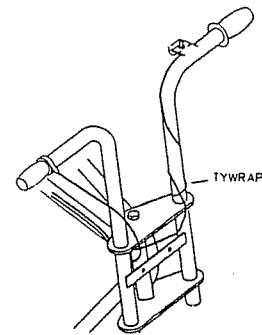

Figure 1: Routing Diagram
2. Separate the Throttle Cable and Stop Switch Wire. Lay the Stop Switch to the left side of the Frame. Route the Throttle Cable (REF. NO 23), as shown in Figure 1, along the top, right side of the Frame, and between the Upper Crown Plate and Front Plate Mounting Bracket.
2. To mount the Fork Assembly to the Frame, align the Fork Pivot Holes with the Frame Pivot Tube and insert the Bolt (REF. NO 38) through the Fork Holes and Bushings. Ensure the Throttle Cable is to the right of the Pivot Tube, see Figure 1. It may be necessary to tap the head of the Bolt with a hammer to seat it in position against the Nut welded to the bottom side of the Lower Fork Plate. Tighten the Bolt until there is no play between the Fork and the Pivot Tube, but will still allow the Fork to rotate freely.
5. Rotate the Twist Grip so that the Throttle Cable points downward and slightly ahead. The Throttle Cable and Housing should form a smooth curve from the Twist Grip to the upper Frame Tube, see Figure 1. Tighten the two Screws in the Twist Grip securely.
1. Route the Stop Switch Wire (REF. NO 53), as shown in Figure 1, along the Top, Right side of the Frame, under the Top Crown Plate, and between the Pivot Tube and Right Fork Tube. Wrap the Wire around the Left Handlebar one time. Remove the Nut and On/Off Plate from the Stop Switch. Pass the Stop Switch up through the mounting hole on the Handlebar. Replace the On/Off Plate and the Nut. Work any slack in the Stop Switch Wire towards the Pivot Tube and apply one tie-wrap (REF. NO 60) as shown in Figure 1. Securely tighten the Nut.